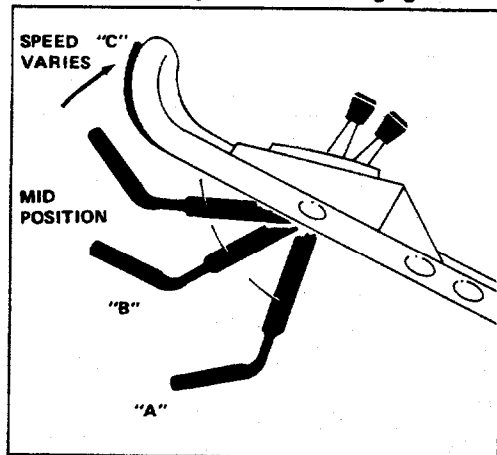

Figure 12
7. **BLADE AND TRACTION OPERATION** (Fig. 12)—Move control bar down to "A" and raise to "B" to engage blade. Squeeze control bar against handle "C" to drive. Ground speed varies, depending on space between control bar and handle. To disengage traction drive but keep blade engaged, gradually release control bar to mid position. To self-propel with blade disengaged, simply squeeze control bar against handle, eliminating downward movement necessary for blade engagement.